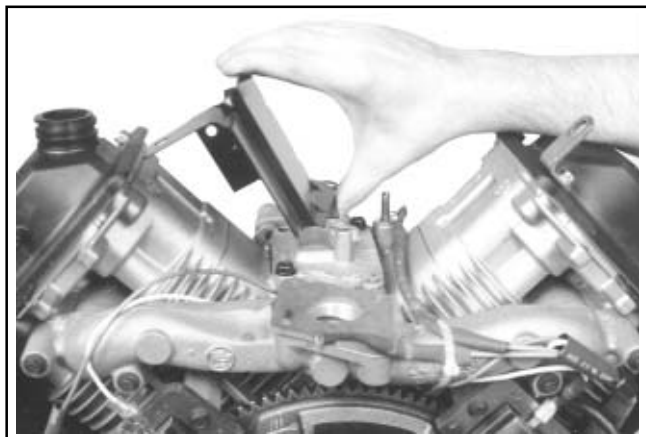

Figure 11-55. Installing Inner Baffles.
4. Install the inner baffles using the remaining two hex. flange screws (see Figures 11-55 and 11-56) and finger tighten. **Do not** torque the screws at this time; they will be tightened after the blower housing and outer baffles are installed.